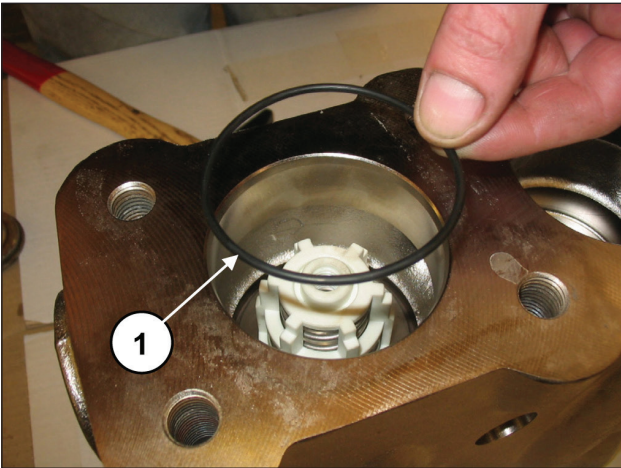

Fig. 110
Fit the O-ring, exploded view pos. 17 (pos. ①, Fig. 110).